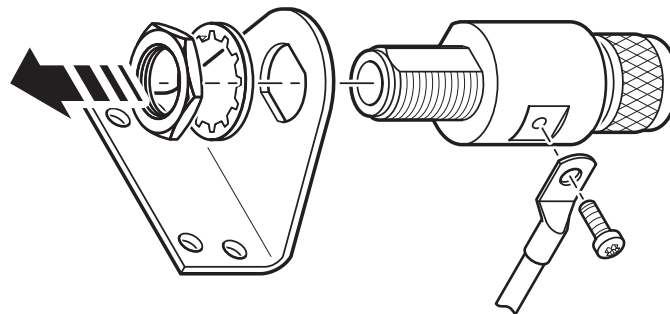

Figure 8.8: Assembly of the MBG S-PRO surge protector
2. Mount the supplied mounting bracket as shown in  Fig. 8.8, then fit the MBG S-PRO to the bracket.